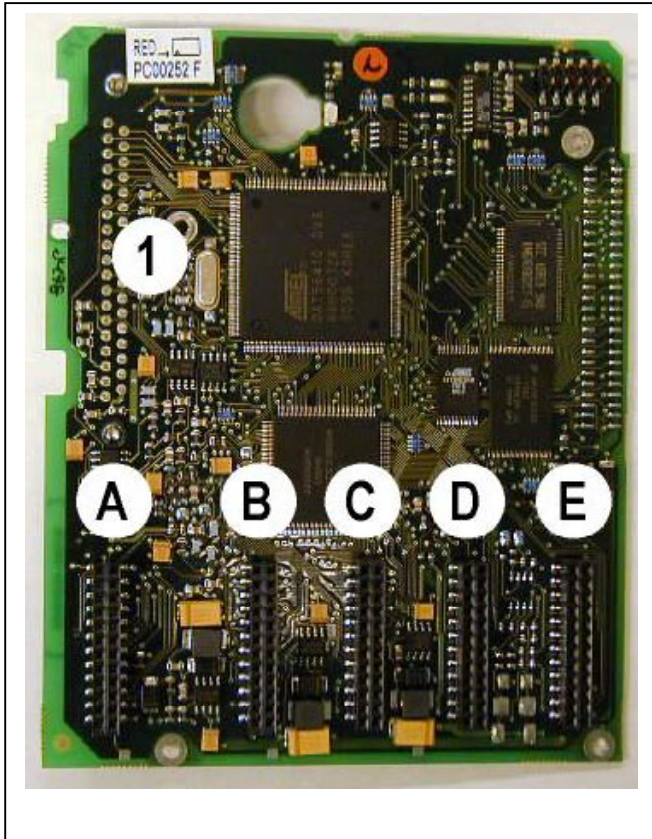

Figure 6-17. NX control board
The control unit of the frequency converter consists roughly of the control board and additional boards (see Figure 6-17 and Figure 6-16) connected to the five slot connectors (A to E) of the control board. The control board is connected to the power unit through a D-connector (1).
The control connections are isolated from the mains potential and the GND terminals are permanently connected to ground. See Figure 6-17.